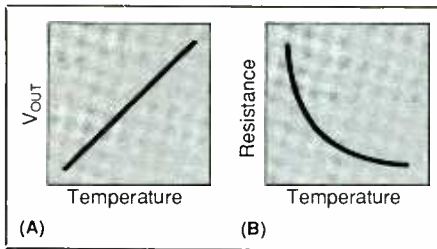

Fig. 1. Constant 10-mV/degree output from LM34 and LM35 (A) is easy to predict and interpret compared to nonlinear response of thermistor (B).
ature sensors is notoriously nonlinear. Figure 1 illustrates the response of the LM34/35 (A) with reference to that of the typical low-cost temperature-dependent resistor (B).